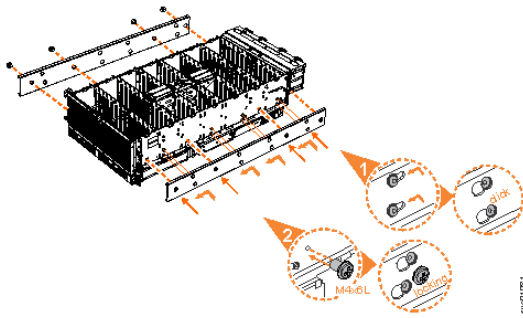

Figure 57. Attaching the inner rail section to the enclosure
5. Install the inner section of the rail onto each side of the expansion enclosure, as shown in Figure 57 on page 56.